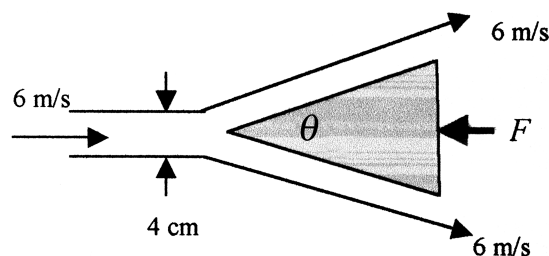

Fig. P3.30
3.30 A wedge splits a sheet of 20°C water, as shown in Fig. P3.30. Both wedge and sheet are very long into the paper. If the force required to hold the wedge stationary is $F = 124$ N per meter of depth into the paper, what is the angle θ of the wedge?